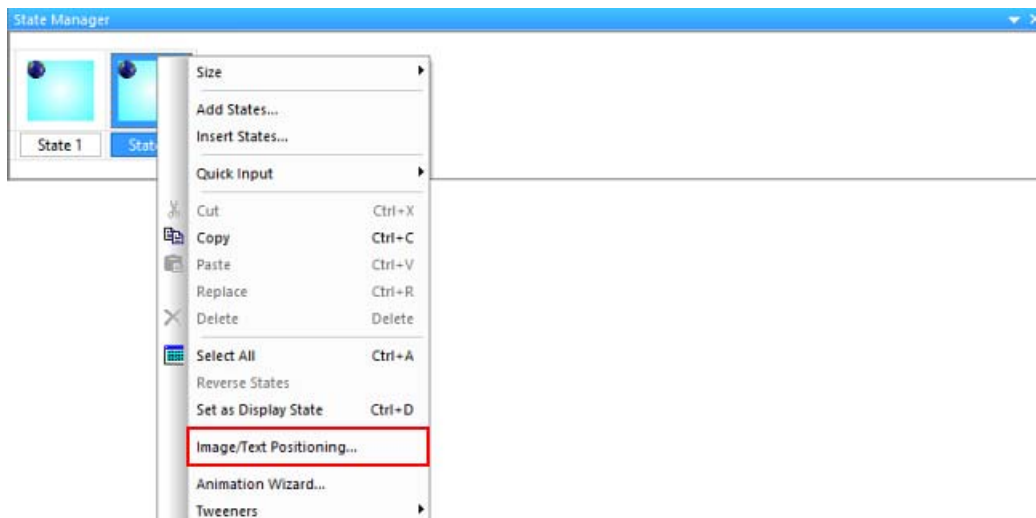

FIG. 321 State Manager context menu - Image/Text Positioning
- In the State Manager window, right-click on the first state and select **Image/Text Positioning** to open the *Image/Text Positioning* dialog (FIG. 321):